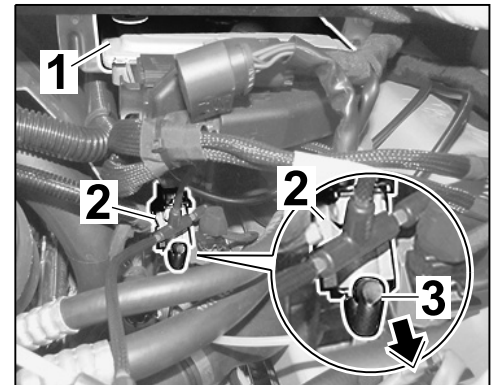

Figure 11
- 2.4.1 Pull standard vacuum line  $\Rightarrow$  *Figure 11-3-* off the change-over valve (flap control)  $\Rightarrow$  *Figure 11-arrow-*.